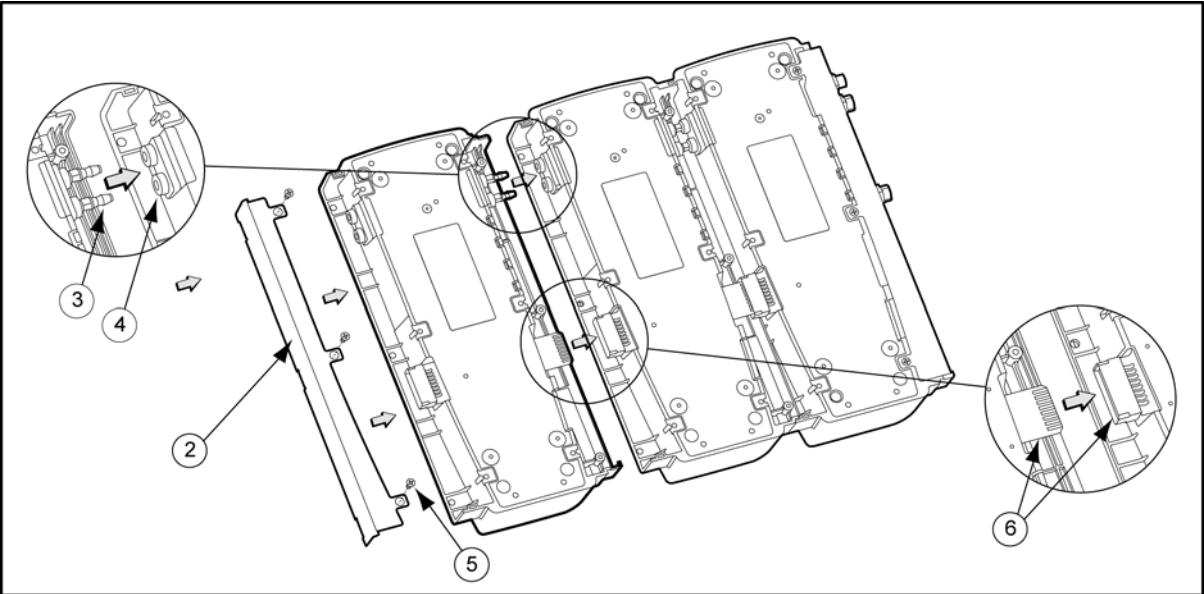

Figure 11. Adding Another Docking Module (Back View)
21. After all of the modules have been added, attach the end plate (refer to Figure 11).